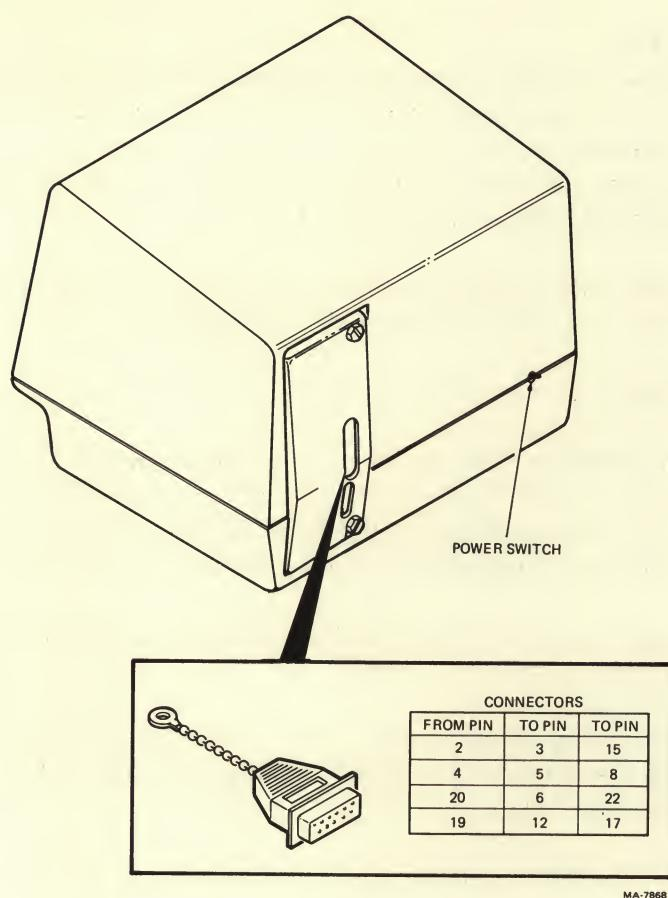

Figure 8-2 EIA Loopback Connector
2. Unplug the communication cable and install the loopback connector on the EIA connector (DIGITAL PN 12-15336) (Figure 8-2). The EIA loopback connector is available from the DIGITAL Accessories and Supplies Group (refer to Chapter 9) or can be manufactured locally.
3. Turn the power switch to the on (1) position. The terminal performs the power-up self-test.